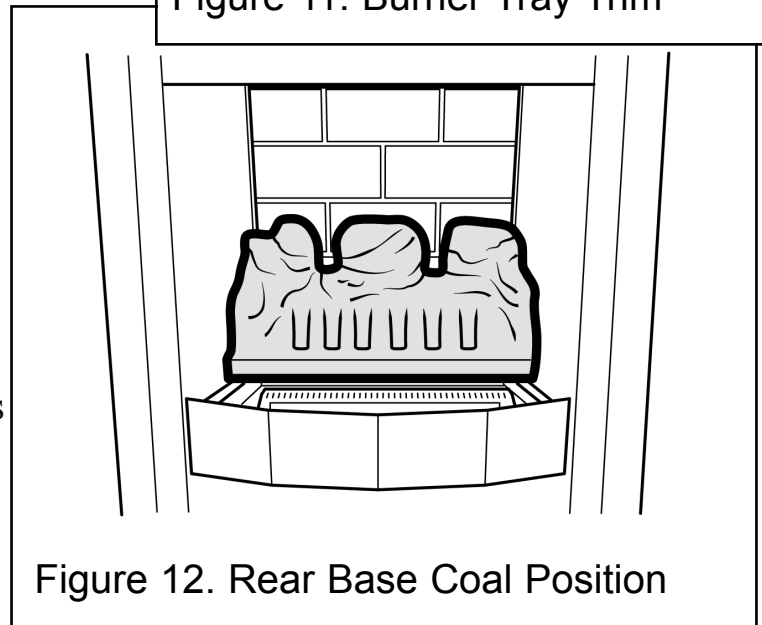

Figure 12. Rear Base Coal Position
1. Place the rear base coal in the firebox. It should rest on the ledges at the sides and back of the firebox and its rear face should touch the rear ceramic wall. See figure 12.